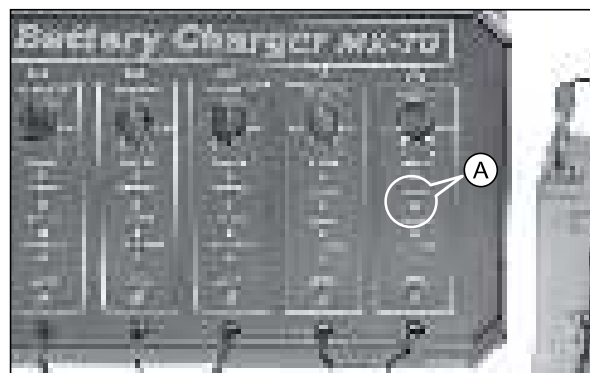

Fig. 5.99
- After charging the battery for few hours (time may vary based on the battery voltage and capacity) 'CHARGED' LED indicator (A) of charger glows and indicates that the battery is charged. (Fig. 5.99)